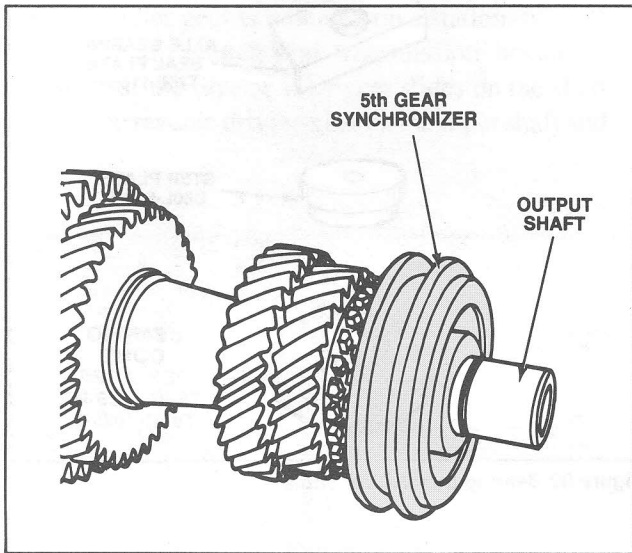

Figure 93 Synchronizer Installation
2. Install the blocking ring and the fifth gear synchronizer. (Figure 93).